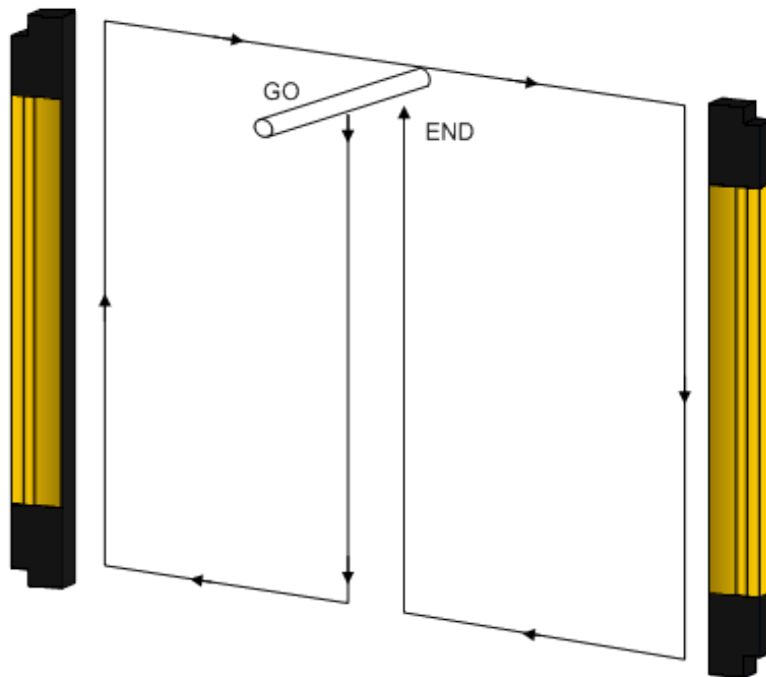

Fig. 16 – Path of test object
- The beams are interrupted across the whole area of the protected field using a test object (test rod) (TP-30) with an appropriate resolution, in accordance with the diagram in Fig. 16.